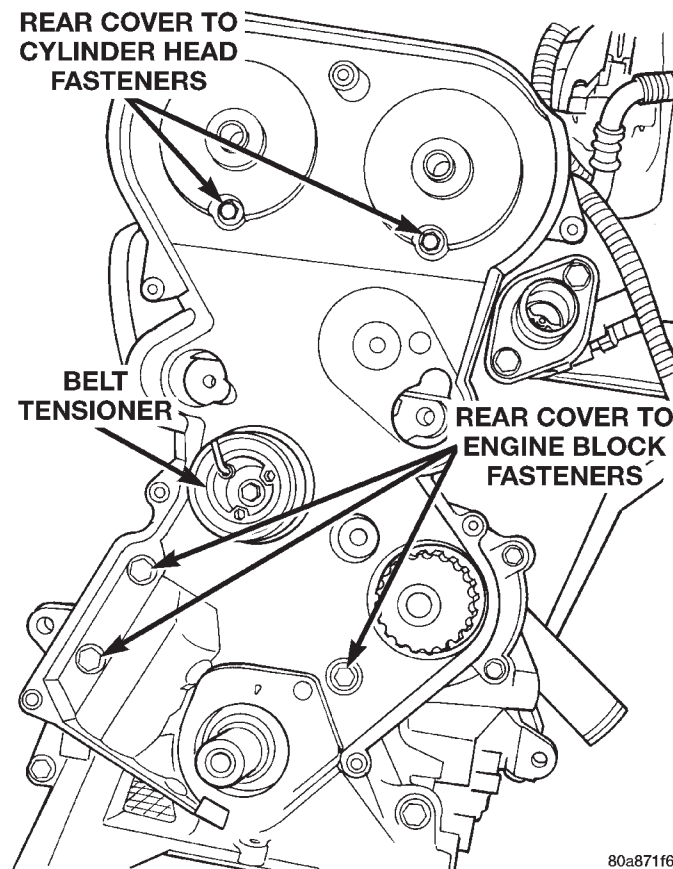

Fig. 52 Rear Timing Belt Cover Fasteners
- (1) Remove Front Cover. Refer to Front Cover Removal procedure outlined in this section.
- (2) Remove Timing Belt. Refer to procedure outlined in this section.
- (3) Remove idler pulleys (Fig. 52).
- (4) Remove both camshaft sprockets.
- (5) Remove rear timing belt fasteners and remove cover from engine (Fig. 52).
- (1) Install rear timing belt cover and fasteners (Fig. 52).
- (2) Install idler (Fig. 52).
- (3) Install camshaft sprockets.
- (4) Install Timing Belt. Refer to procedure outlined in this section.